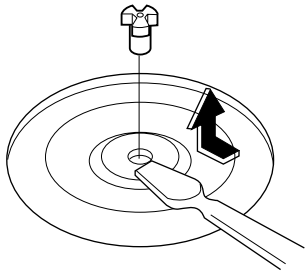

Figure 20
- (1) Remove the turntable.
- (2) Remove the turntable shaft VERY CAREFULLY with a slotted screwdriver. (Figure 20)